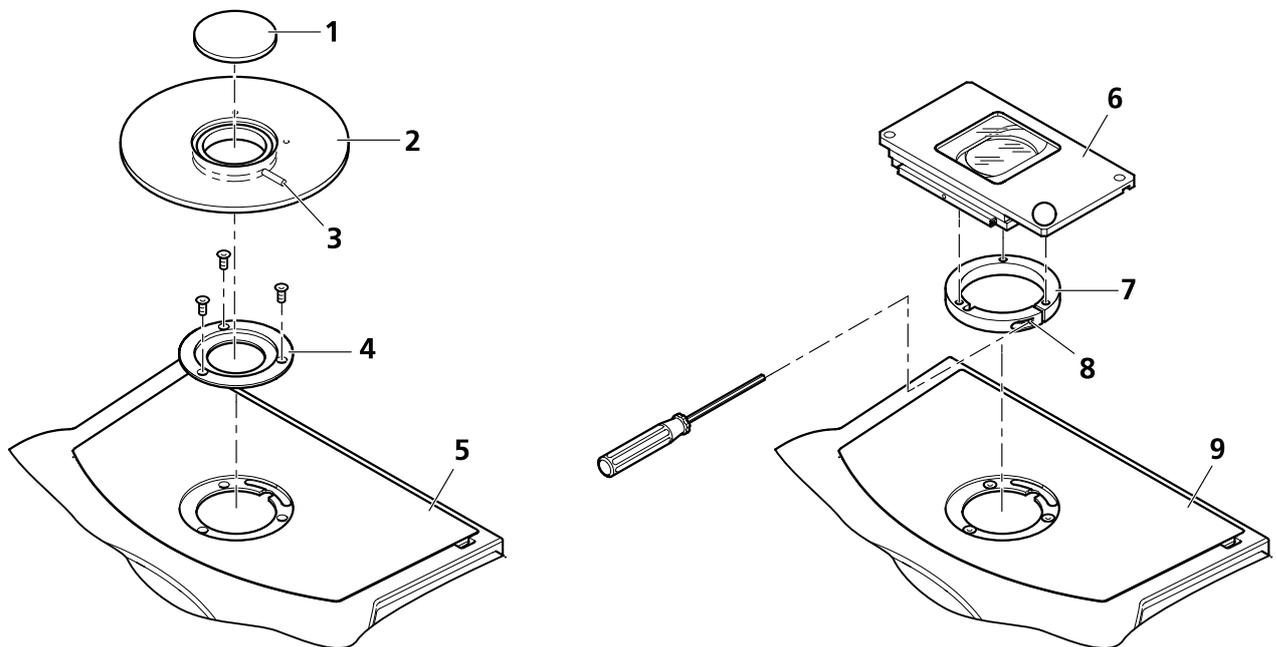

Fig. 14 Installing the stage
Stages with 84 mm interface should be fastened to the stand base by means of the 84/120 mm stage adapter (Fig. 14/4).
- Unscrew three short Allen screws (SW 3) from insert plate (Fig. 14/5).
- Use three longer Allen screws (SW 3) to screw down the stage adapter (Fig. 14/4) hand-tight through the insert plate.
- Put the stage (Fig. 14/2) onto the stage adapter and align it.
- Throw eccentric clamping lever (Fig. 14/3) over to clamp the stage in the stage adapter.
- Put the round 84 mm plate (Fig. 14/1) into the stage interface.
Stages with 120 mm interface (Fig. 14/6) should be fastened to the insert plate (Fig. 14/9) by means of the stage-clamping ring mounted to the stage (Fig. 14/7). Do not remove the stage-clamping ring.
- Put the stage with installed stage-clamping ring (Fig. 14/6 and 7) onto the insert plate (Fig. 14/9) and align it.
- Clamp the stage-clamping ring in the insert plate by turning the Allen screw (SW 3) (Fig. 14/8) clockwise.